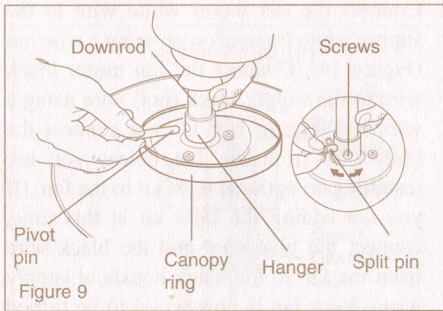

Figure 9
4. Push the pivot pin through the hanger and downrod holes (Figure 9). Secure the pivot pin by inserting the split pin and bending the ends to prevent it from falling out of the holes (Figure 9).
5. Secure the hanger and downrod by tightening the two screws on the hanger (Figure 9).